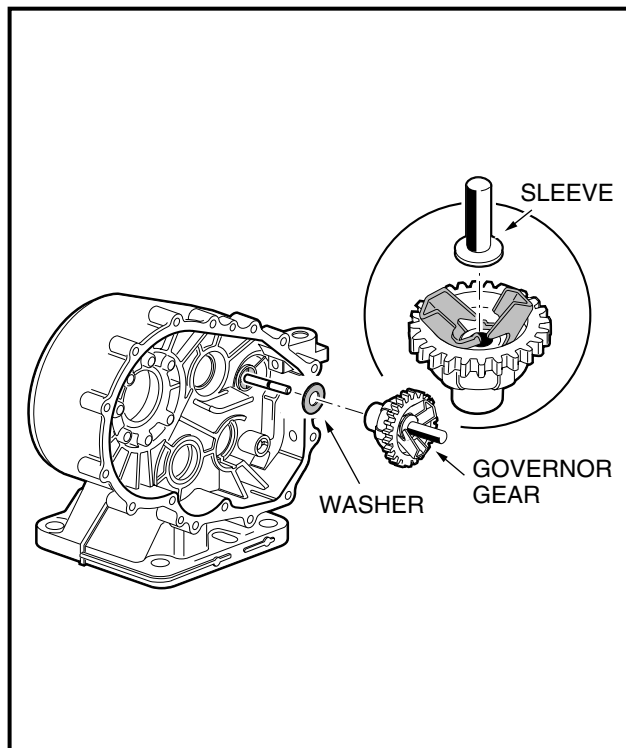
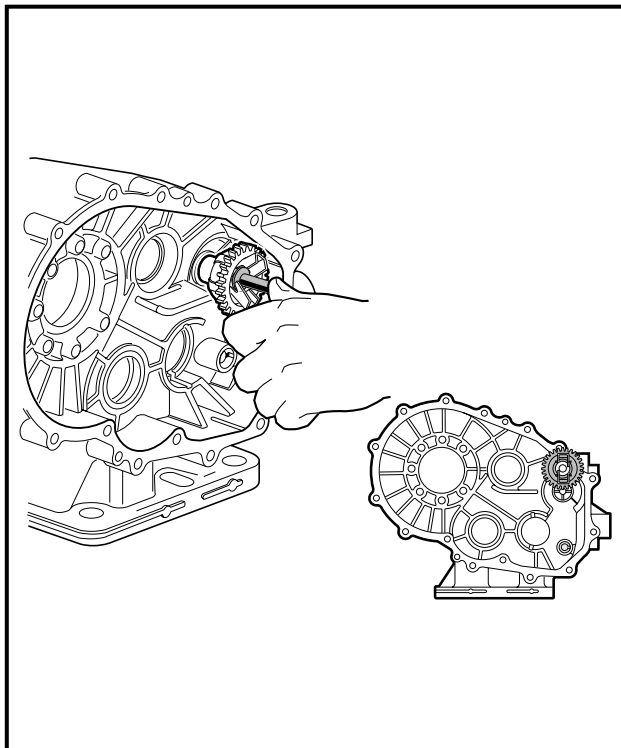

Figure 7-45 Position Governor Gear
Figure 7-46 Install Governor Gear
4. Install the washer, governor gear, and sleeve together onto the governor shaft (**Figure 7-45, Page 7-25**). Make sure the sleeve is properly positioned within the flyweight brackets of the gear (**Figure 7-46, Page 7-25**), then push them onto the shaft until the gear snaps into the groove on the shaft.